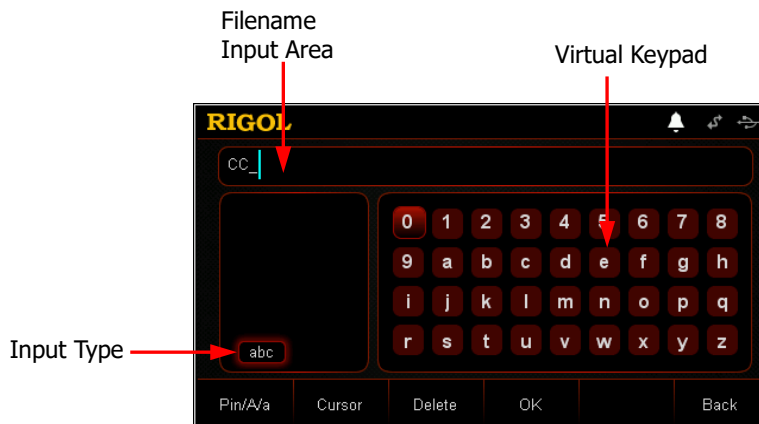

Figure 2-49 Filename Input Interface (lowercase English letters)
2. Press **Save** to enter the filename input interface. By default, the input type is lowercase English letters, as shown in Figure 2-49.